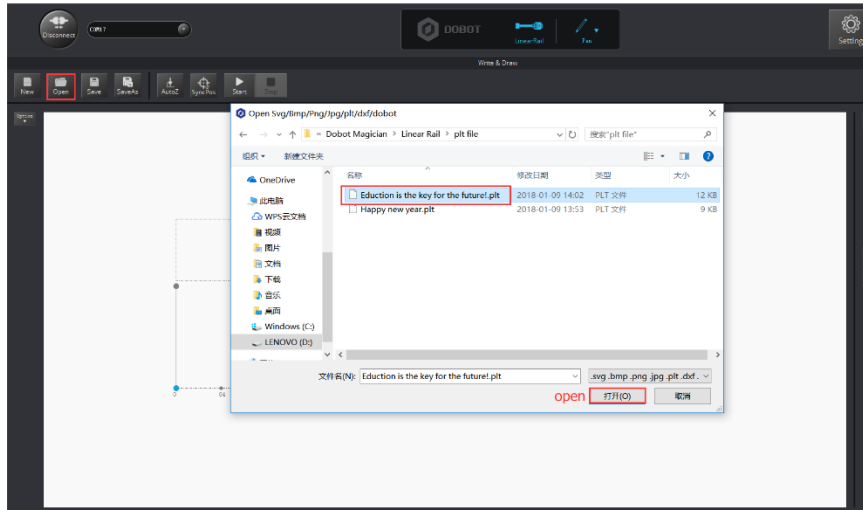

Figure 1.15 Import file
Step 5 Click **open** to import the PLT files. As shown in Figure 1.15.